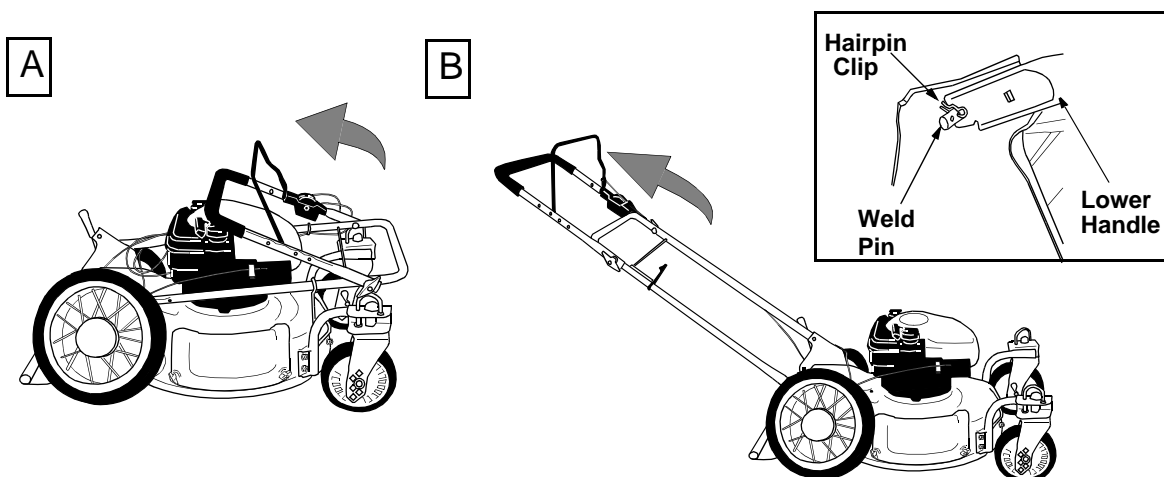

FIGURE 4
- Using a pair of pliers, insert the hairpin clip into the inner hole in the weld pin. Repeat on other side. See Figure 4 inset.